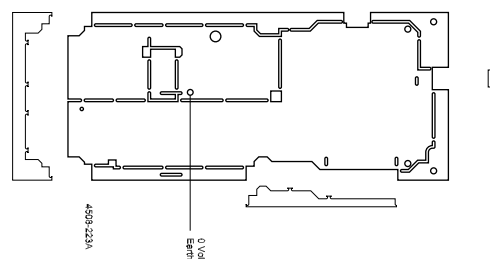

Figure 7.9: Frame 4 to 7 Control Board Biscuit
- 8) The replacement Control board will be in biscuit format. It will have to be trimmed to the same size as the existing board size as per figure 7.9. This is done with a fine pair of side cutters.